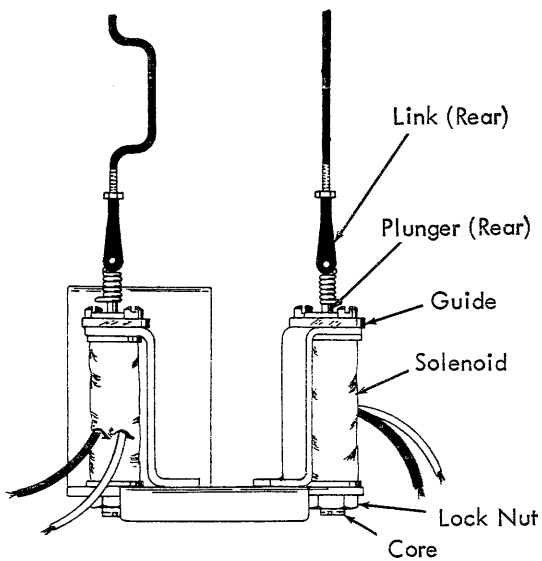

FIGURE 207. Index Solenoid Adjustments'
1. Adjust the solenoid core for .020" plunger to core air gap by holding the plunger against the guide, turn in the core until the plunger just begins to rise, back off the core 1/2 turn and tighten the lock nut (Fig. 207).
2. Adjust the rear index selection solenoid link so the air gap on the rear solenoid will be .120" to .130" with the front plunger sealed (Fig. 207).
3. Adjust the front index selection solenoid link so the air gap on the front solenoid will be .120" to .130" with the rear plunger sealed (Fig. 207).